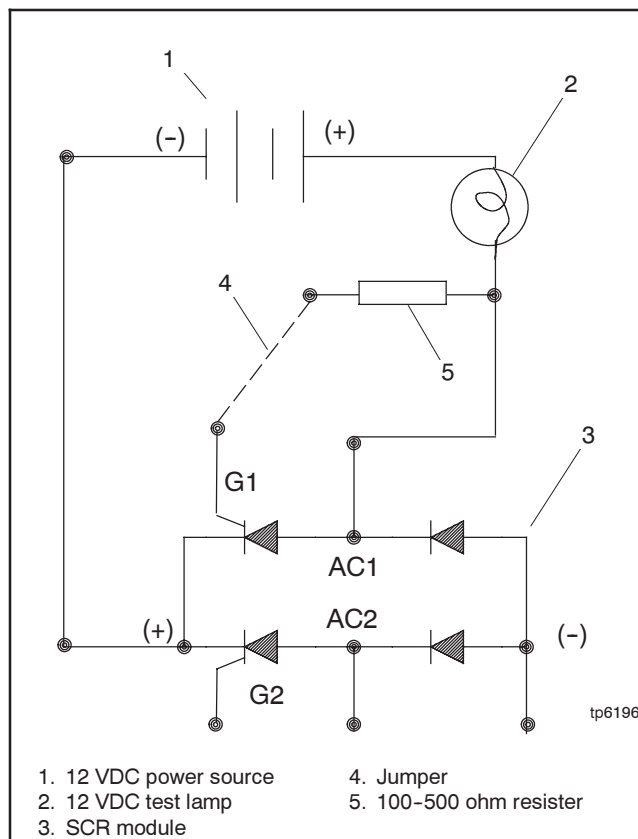

Figure 6-19 SCR Test
8. See Figure 6-19. Connect the *negative* (-) lead from the DC power source to the *positive* (+) terminal on the SCR module.